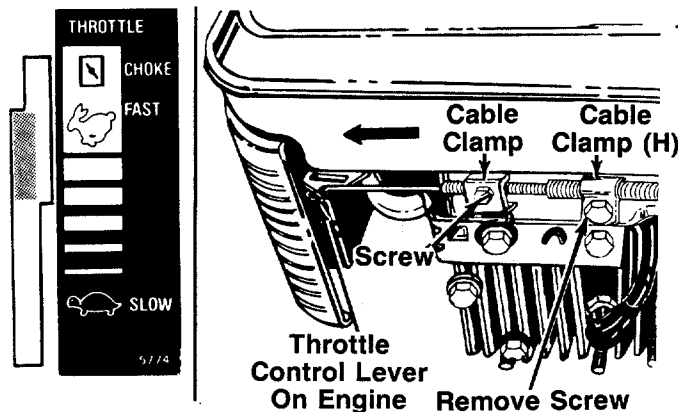

FIGURE 6.
7. Move throttle control lever on handle forward until it stops in FAST position (**do not** push all the way forward to CHOKE position). See figure 6.
9. Using a 7/16" wrench, remove the screw on the engine shown in figure 6.
Remove the screw on the cable clamp shown in figure 6. Slip the control casing under the clamp. Replace the screw, but do not tighten (cable must still move freely beneath the clamp).
10. Slide the throttle control lever on the engine as far toward the outside of the engine as it will go **easily** (just until resistance is felt) as shown in figure 6. (**Do not** force it into the extreme outside position, which is the CHOKE position). Tighten the screw to secure the throttle control cable in this position.
12. Secure cable casing to the front of engine with cable clamp (H) provided in hardware pack and screw removed from engine in step 9. Do not over-tighten.